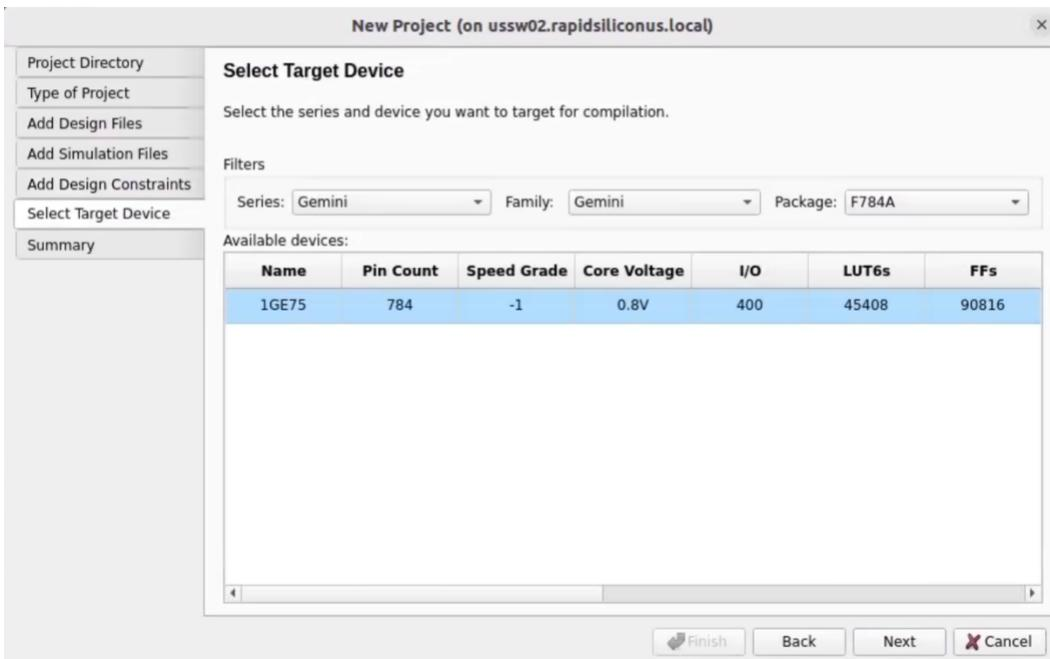

Figure 18. Select the Target Device
9. Select Target Device: Select the supported target device in Raptor as shown in Figure 18.